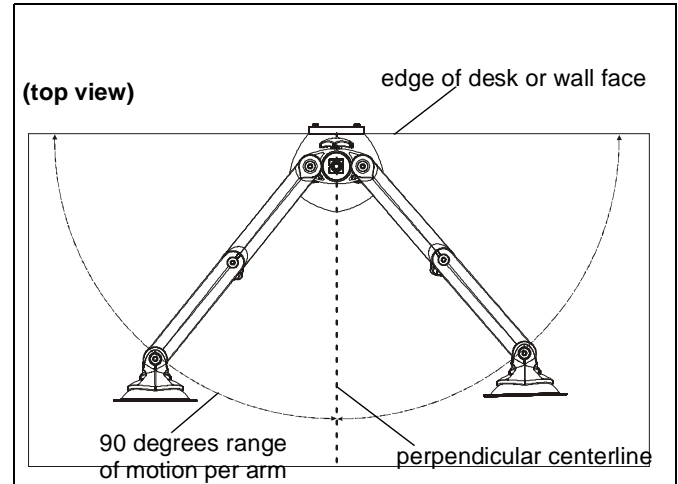

Figure 14
1. Adjust arm angles as desired within a 90 degree range from the edge of desk or wall and a perpendicular centerline of mount. (See Figure 14)